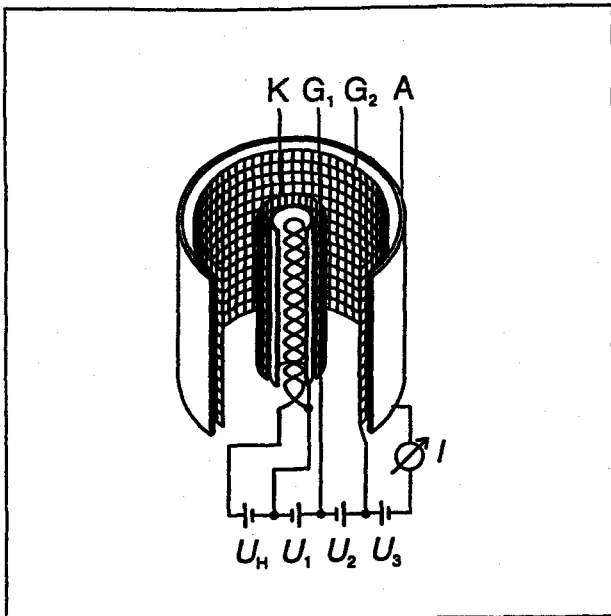

Fig. 1: Schematic diagram of the mercury Franck-Hertz tube
The Franck-Hertz tube has cylindrical geometry. See Fig. 1. A cathode (K) is indirectly heated by a filament. The filament is heated by the voltage U_H . Close to the cathode is the control grid G_1 which is kept a few volts positive with respect to the cathode by the voltage U_1 . The magnitude of the electron current through the tube is largely but not completely controlled by U_1 . At a relatively larger distance is the accelerating grid G_2 . The voltage between G_1 and G_2 is U_2 . With U_1 fixed, the electron energy is varied by changing U_2 . The voltage U_2 has a range of 0-30 V, with G_2 positive with respect to G_1 . A short distance outside G_2 is the collector or anode (A). The current to the anode is (I). The voltage between G_2 and A is U_3 . This is a retarding voltage of a few volts.